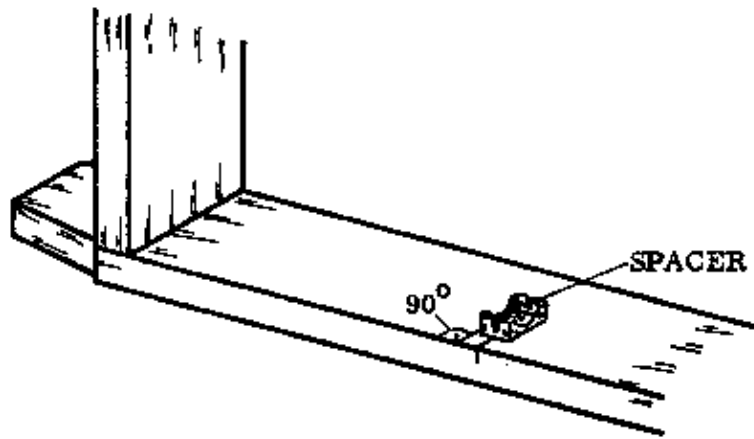

Fig. 2
c. Fix the bottom spacer on the cill (Fig. 2) at right angles to the face of the frame. The frame must be painted before the spacers are fitted.